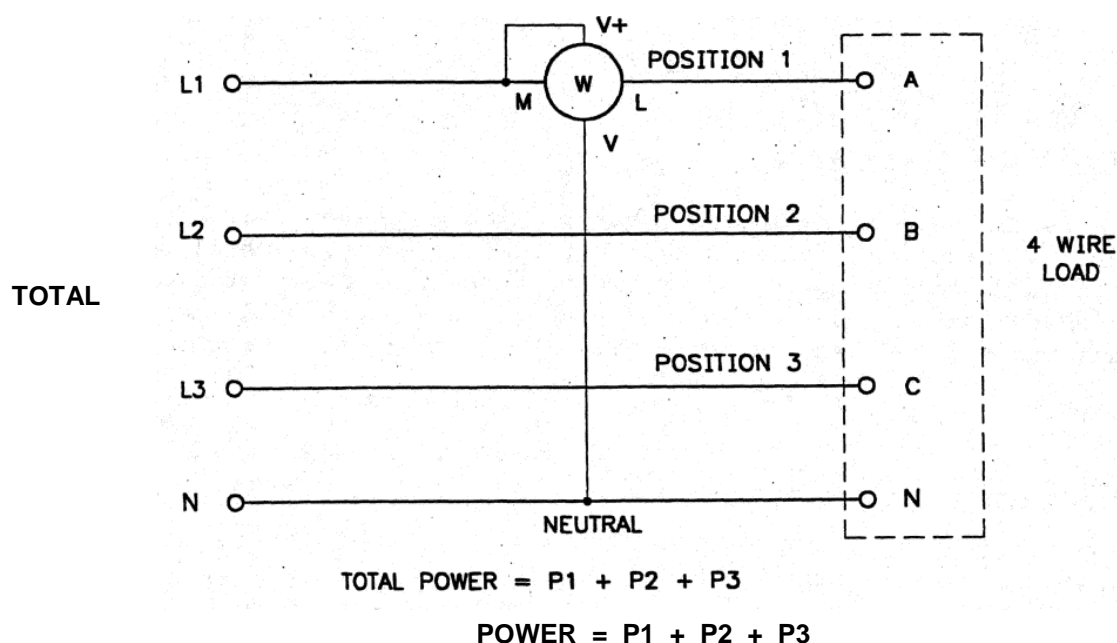

Figure 3 - One wattmeter method - four wire
- b **Four-Wire Circuit** One wattmeter is connected as shown in Figure 3. If the circuit is balanced, the total power is the wattmeter times 3. If the circuit is unbalanced, the wattmeter must be connected (or switched) into each phase in turn – the total power is then the sum of each of the three wattmeter readings.